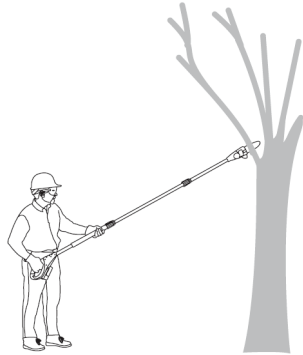

Fig. 27
1. Always hold the product firmly with both hands on gripping surface (9) and rear handle (1). Never operate this product using only one hand (Fig. 27).